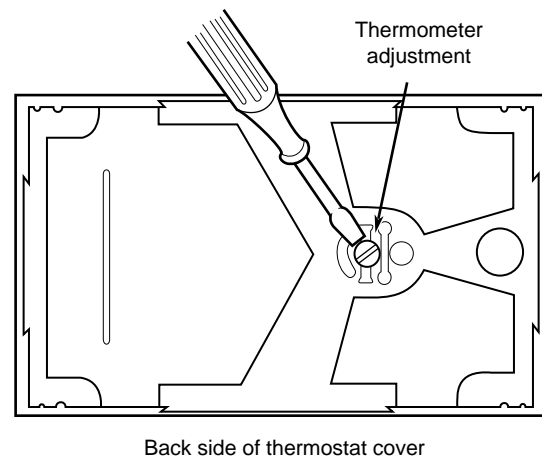

Figure 13. Calibrating Thermostat Thermometer
5. If the thermometer readings are different, insert a small screwdriver blade into the thermometer shaft on the back of the cover (see Fig. 13). Adjust until the cover thermometer matches the other thermometer.